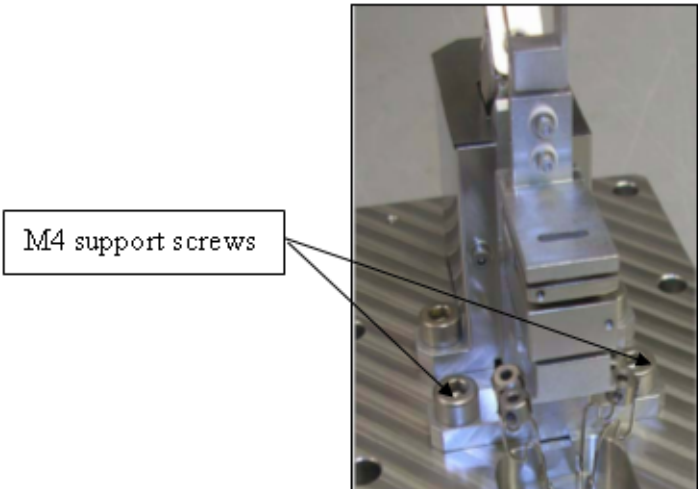

Figure 11: M4 Screws
13. Remove the two M4 support screws (Figure 11: M4 Screws).